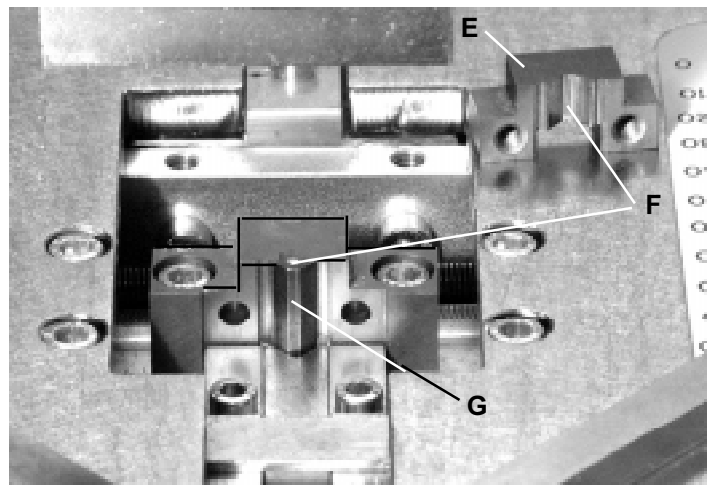

Figure 13
- c. Figure 13 is viewed from the rear. Remove the rear half of the **Hammer Block (E)** and wipe the hammer paths (**F**) clean.
- d. Depress the **Foot Pedal** to expose the **Hammer (G)** and wipe it clean.